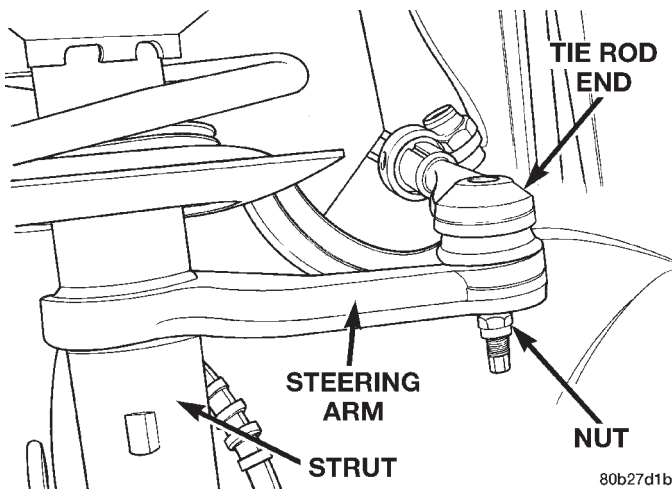

Fig. 18 Tie Rod End Attachment To Strut
(23) Separate the intermediate steering shaft from the steering gear.
(24) Raise vehicle.
(25) Remove the right front tire/wheel.
(26) Remove the nut (Fig. 18) attaching the tie rod end to the steering arm on the right strut.
(2) Install the right tie rod through the tie rod hole in the inner fender.
(3) Install the outer tie rod on the steering arm of the right strut. Install the tie rod to steering arm attaching nut (Fig. 18). Tighten the attaching nut to a torque of 37 N·m (27 ft. lbs.).
(4) Install the right side tire/wheel.
(5) Install and tighten wheel mounting stud nuts in proper sequence until all nuts are torqued to half